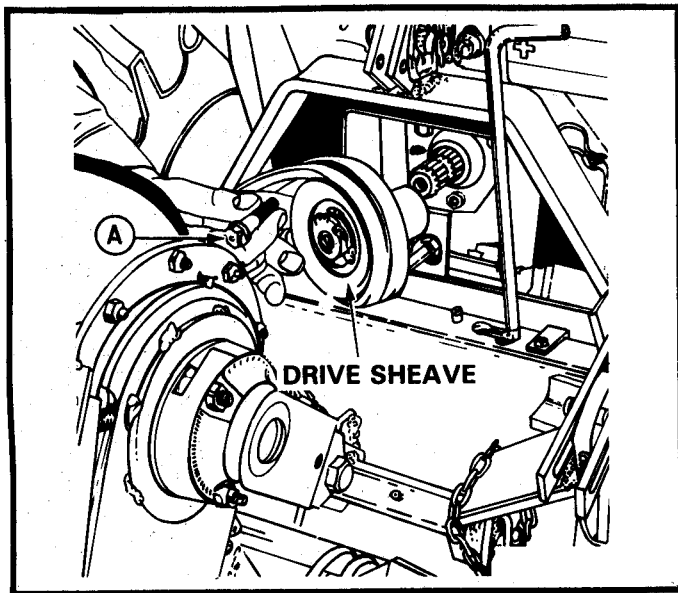

FIGURE 5
4. Remove the drive sheave, Figure 5.